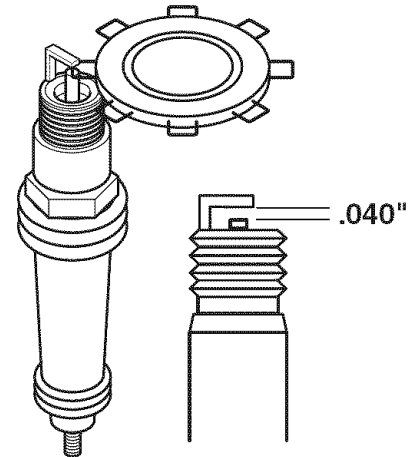

Figure 27. Spark Plug Gapping
4. Check the spark plug gap. The gap (new or used plug) should be .040" (see Figure 27).